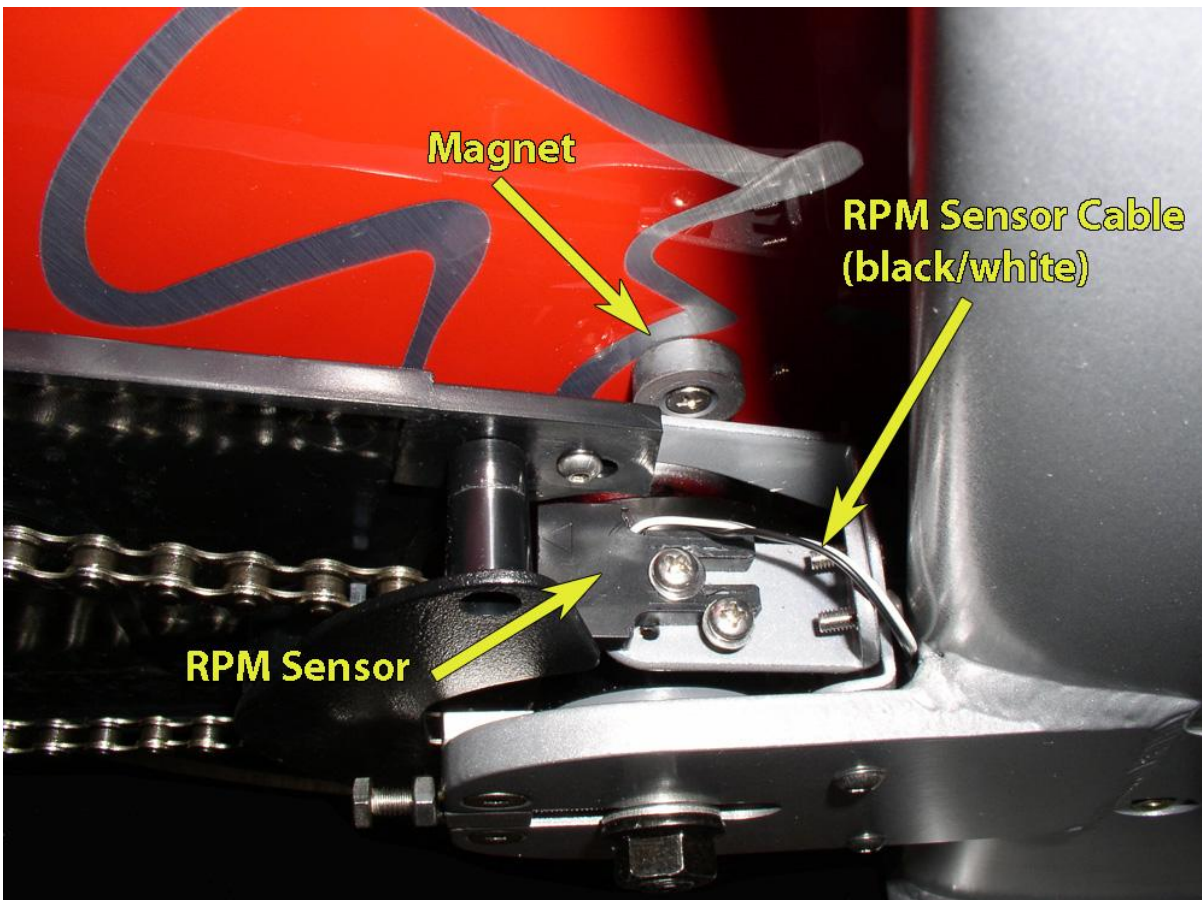

Fig. 3
- I. Align the sensor and check if it points in the right direction and/or bring it closer to the flywheel (Fig. 3).